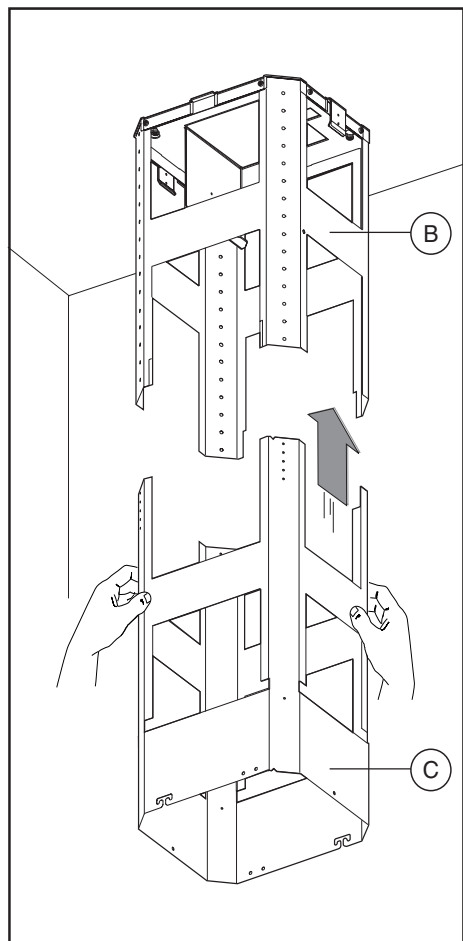

Fig.5
- Take the lower part of the telescopic structure **C** and insert it into the upper structure **B** (fig.5).